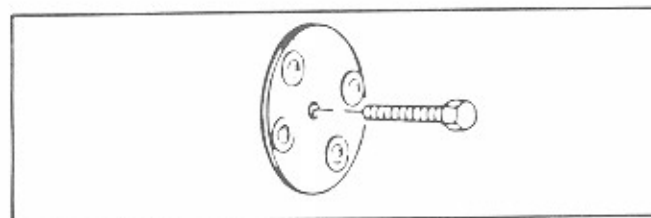

Figure 1-3. Shipping Bolt Removal
1. Remove the CD changer mechanism shipping bolt from the back of the phonograph cabinet (s figure 1-3).